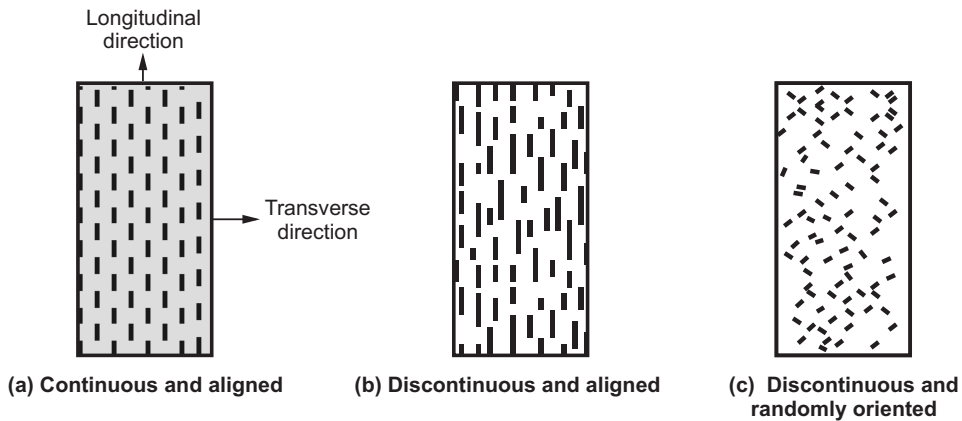

Fig. 7.3 : Types of fiber-reinforced composites
- Depending on the length of actual fibers, the fiber-reinforced composites are classified as : (Refer Fig. 7.3)